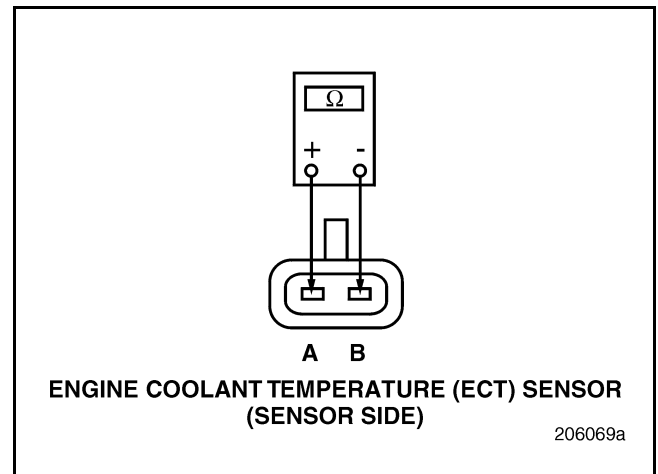

Figure 139
3. Measure the resistance across the pins of the ECT Sensor with the coolant temperature between 32° and 194°F (0° and 90°C) (see Figure 139).